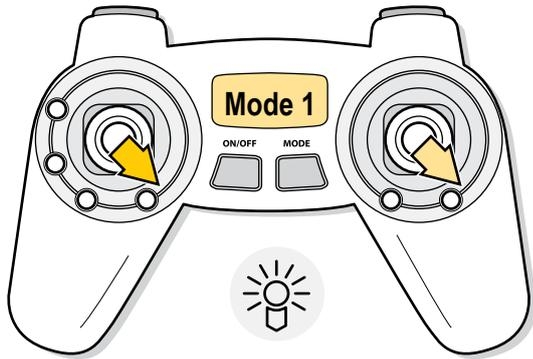

Fig. 24
- > MODE 1: Move the ELEVATOR/RUDDER lever and the THROTTLE/AILERON stick diagonally into their right bottom corner (see [Fig. 24]). The LED's turn on or off, depending on their state.